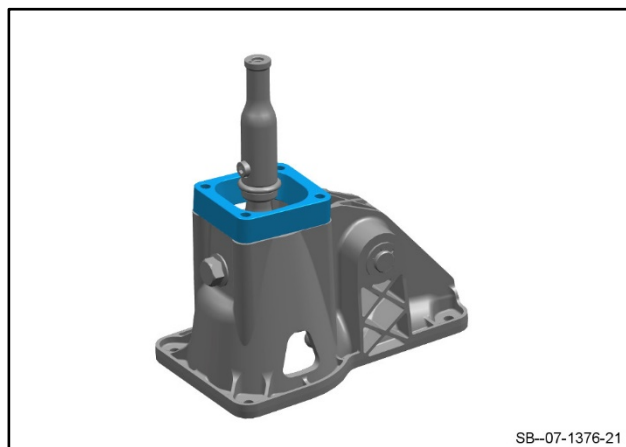

Figure 2
3. Remove and discard the travel stop (refer to Figure 2).